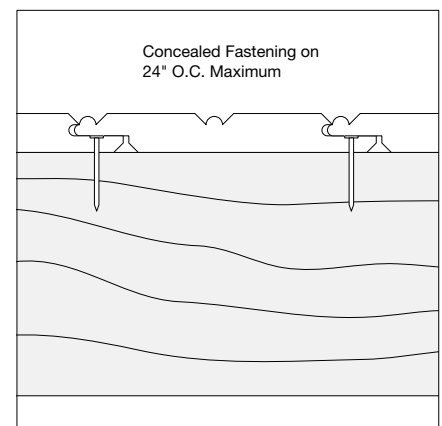

Fig. 9
- KLEERLok SFS products feature a nailing flange for easier concealed fastening. Fasten KLEERLok SFS through the nailing flange every 12" at each framing member using siding or 15 gauge finish nails (**Fig. 9**).